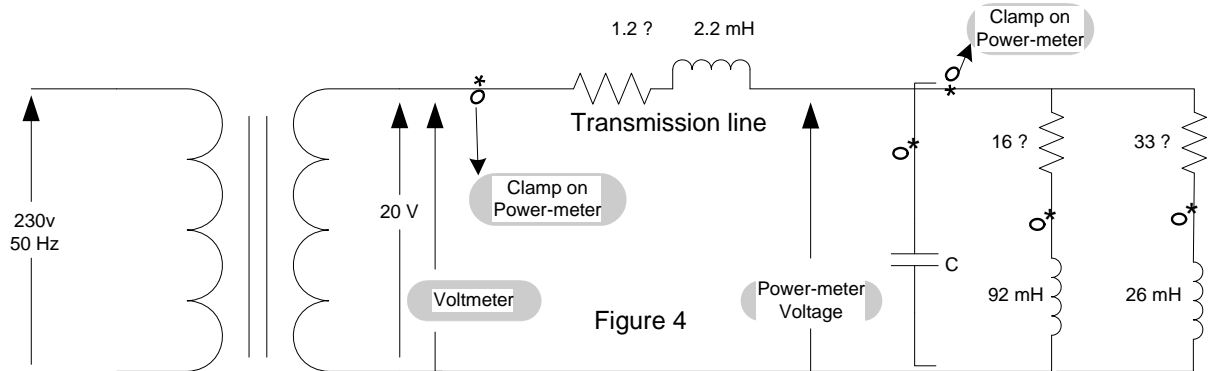

Figure 4
- (a) Calculate the value of capacitance required to improve the p.f found in step 6.1.c to unity. Connect the circuit as shown in figure 4. Switch on the required capacitance as calculated. **Have your circuit checked by the laboratory demonstrator.** Switch on the power meter and the power supply. Repeat the measurements as in step 6.1.c and record the values in Table 1.
- (b) On/off the switches on the capacitor bank in figure 4 to set the capacitance value as 30 μ f. Repeat the measurements as in step 6.1.c and record the values in Table 1.